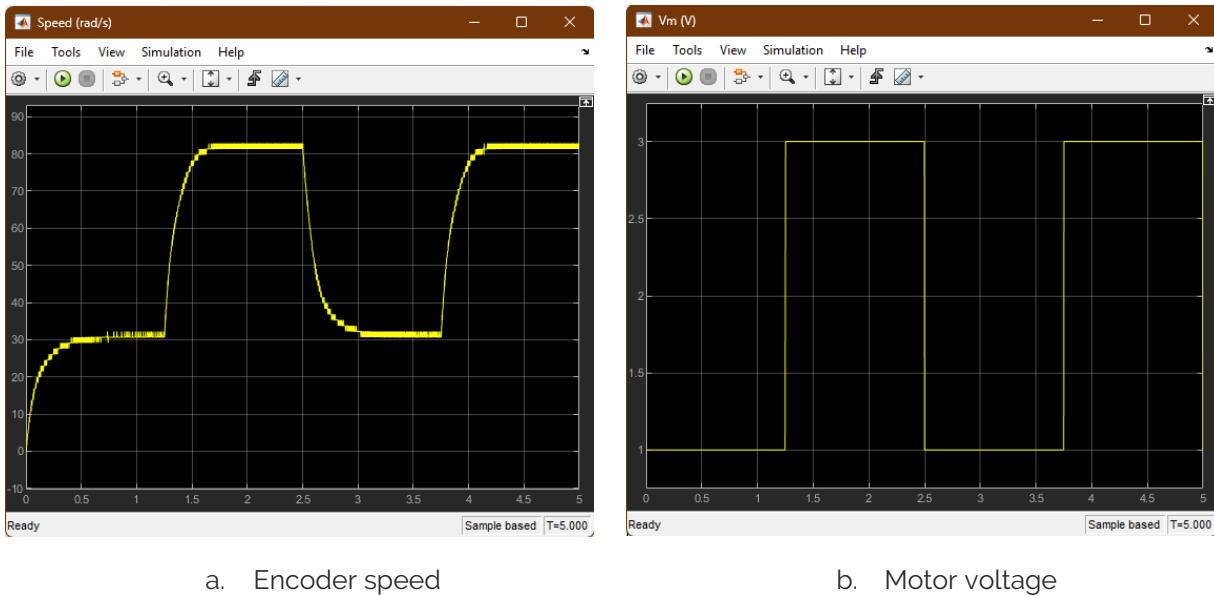

Figure 2. Measured servo speed using encoder
- 5. Run the QUARC controller using the Run button on the Simulation tab. For more information on this, refer to the Hardware Interfacing lab. Examine the encoder speed response and motor voltage plots, and take screenshots. They should look like Figure 2.